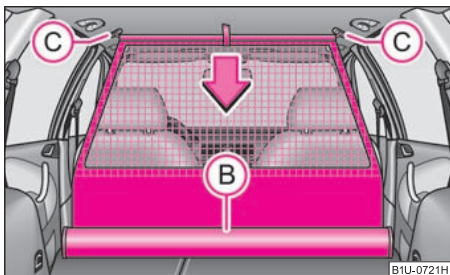

Fig. 83 Roll up net partition
- Pull the cross rod back slightly, first on the one side then on the other side and take the cross rod out of the mount (C) ⇒ fig. 83.
- **Hold** the cross rod in such a way that the net partition can roll up slowly and without damage into housing (B).